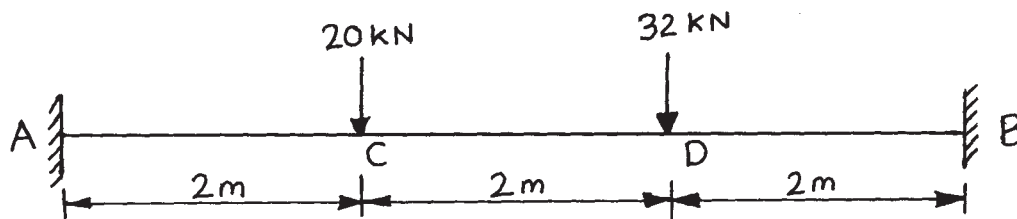

Fig. No. 4
b) Calculate fixed end moments and draw BMD for a fixed beam as shown in Fig. No. 4.